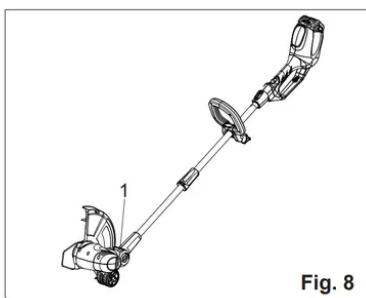

Fig. 8
Edging Function (See Figure 8.) For use next to patios, driveways and walkways or any areas requiring a well groomed edge line. 1. Push on the edge button(1) and tilt the trimmer head 90 degrees until the head locks into position and release button.